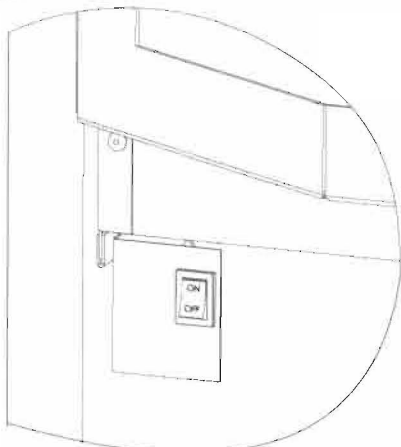

Figure 54
- A. Turn on the main electrical power to the heater and turn the main burner switch to the ON position. See Figure 54. Verify power is on by checking if there is power to the circuit board. If the unit has power, the power light will be illuminated.